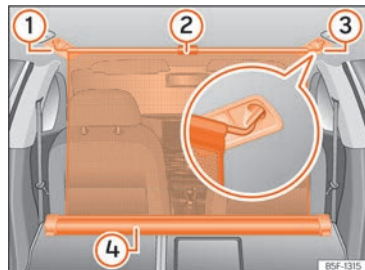

Fig. 141 In the luggage compartment: net partition hooked in place with the rear seat backs folded down.
- Pull up handle »» Fig. 141 ② to remove the net from the casing »» Fig. 141 ④.
- Hook in the net partition on the right or left side »» Fig. 141 ③ (magnified image).
- Hook in the net partition into the housing on the other side »» Fig. 141 ① by pulling the rod.
The net partition is properly assembled when the T-shaped ends are firmly secured in the corresponding housings »» Fig. 141 ③ and ①.
- Roll up the net into the casing »» Fig. 141 ④ lowering it with your hand.